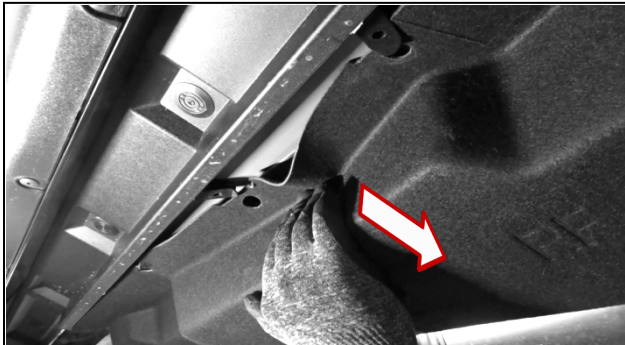

Fig. 2-2
- (a) Push the undercover towards the vehicle to slide it out from under each of the three (3) clips to release it (Fig. 2-2).